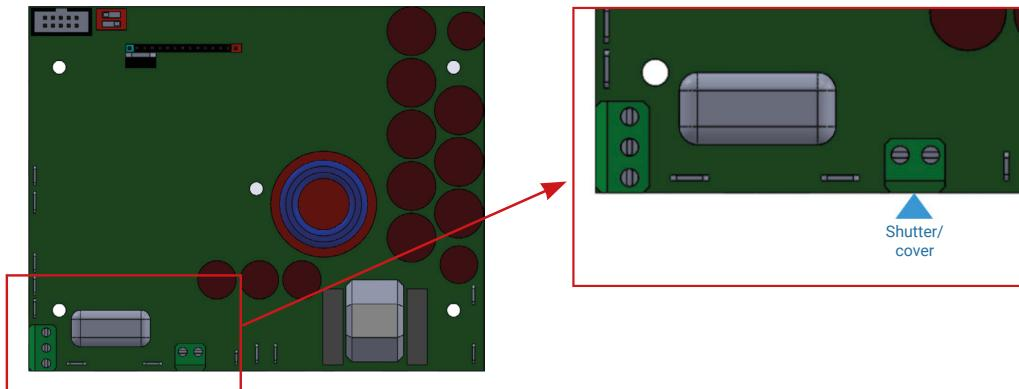

Figure 4
- Find the end contact in the automatic shutter's electrical cabinet (dry contact, no power). Some shutter manufacturers specifically mark out this contact for controlling salt water chlorinators. It must be a normally open-type contact (NO).
- Connect the dry contact terminals (NO) using 1 cable with 2 small cross-section conductors to the electronic card's terminal block located inside the salt water chlorinator's control unit as shown in Figure 4 below.